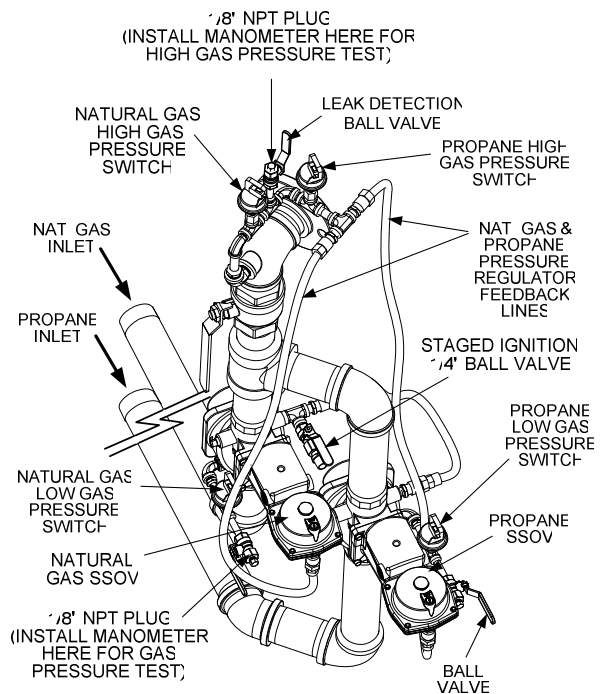

Figure 6-1
Refer to Figure 6-1 and ensure that the leak detection ball valve located at the top of the gas train by the high gas pressure switches is closed.
2. Remove the 1/8 " plug from the ball valve at the natural gas low gas pressure switch shown in the lower-left portion of Figure 6-1.
2. Remove the 1/8" plug from the ball valve at the propane low gas pressure switch shown in the lower-right portion of Figure 6-1.
To simulate a natural gas high gas pressure fault, refer to Figure 6-1 and proceed as follows:
2. Remove the 1/8" plug from the leak detection ball valve shown in the upper portion of Figure 6-1.
To simulate a propane high gas pressure fault, refer to Figure 6-1 and proceed as follows: